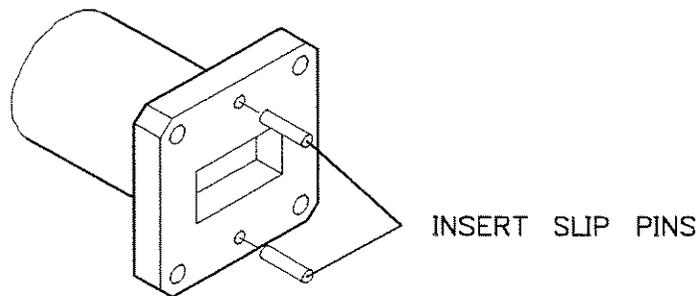

Figure 4-2.
1. Place slip pins in the top and bottom holes of one flange (see Figure 4-2).